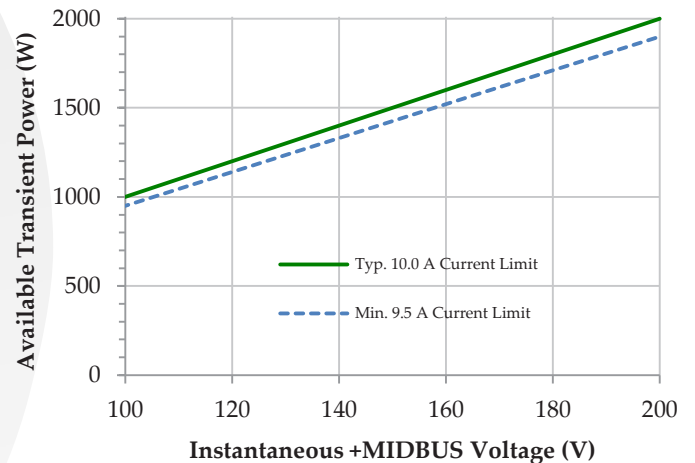

Figure 13: Available transient power vs. instantaneous +MIDBUS voltage. See Figure 11 for steady-state voltage.
- 2) Multiply this minimum +MIDBUS voltage by 9.5 A (the worst-case minimum value for +MIDBUS current limit) to obtain the minimum value during the transient for available power (see Figure 13).
Transients applied at either +VOUT or +MIDBUS will cause a significant dip in voltage at +MIDBUS, which must remain high enough to sustain the applied load power, as shown in Figure 13. Higher values of external capacitance at +MIDBUS will reduce the deviation seen during a load transient, as shown in Figure 14.
For instance, with 100 μF of external +MIDBUS capacitance, a transient from 0% to 75% rated power is handled easily: as seen in Figure 13, the required +MIDBUS voltage to sustain 75% power is only 120 V. However, a full 0% to 100% load transient requires at least 160 μF of external capacitance to keep +MIDBUS from dipping below the required 160 V and then collapsing. See section above entitled “+MIDBUS Current Limit” for more information.
Holdup capacitance may instead be placed at +VOUT if dips in the output voltage are acceptable during a line interruption. During a line brownout, the diodes in the buck PFC stage remain reverse-biased until the +MIDBUS voltage drops below the level shown in Figure 11. Using relatively low capacitance at +MIDBUS allows the +MIDBUS voltage to drop to this level quickly, allowing the converter to contribute some power to +VOUT (see Figure 13). The voltage rating for capacitors at +VOUT should be at least 320 Vdc.
V_f is the minimum capacitor voltage during the transient. (For cap at +MIDBUS, determine from Figure 13; for cap at +VOUT, determine based on downstream requirements.)
When the holdup capacitor is located at +MIDBUS, V_i will be a function of line voltage (see Figure 11) and load current (+MIDBUS will typically droop to 200 V at full load). V_f will be a function of load power during line interruption because of the +MIDBUS current limit (see Figure 13 and further discussion in the section entitled “+MIDBUS Current Limit”).
- 4) Current limit tolerance (9.5 A minimum, which raises the required V_f to sustain load power as shown in Figure 13)
Figure 17 shows an example of a 50 ms line interruption. Note that for the conditions in Figure 17, the ideal equation would predict $C_{holdup} > 6$ mF. Yet the actual capacitor used was 7.5 mF, chosen to keep the minimum voltage well above the available transient power shown in Figure 13 and to account for the combined effects of items 1, 2, 5, and 6 discussed above.